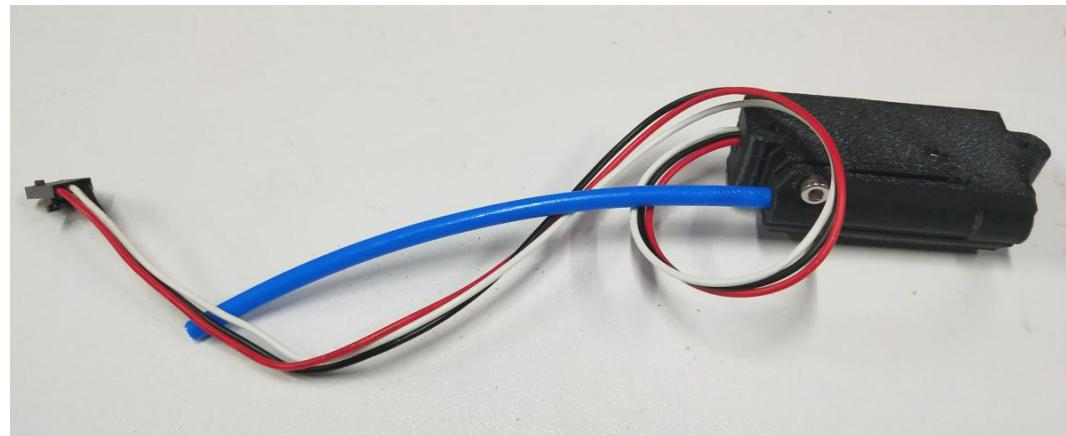

Figure 5.2.1
**Step 5-2-1:** As shown in Figure 5.2.1. Prepare the materials and check whether the quantity of materials is correct, and prepare for the next installation.